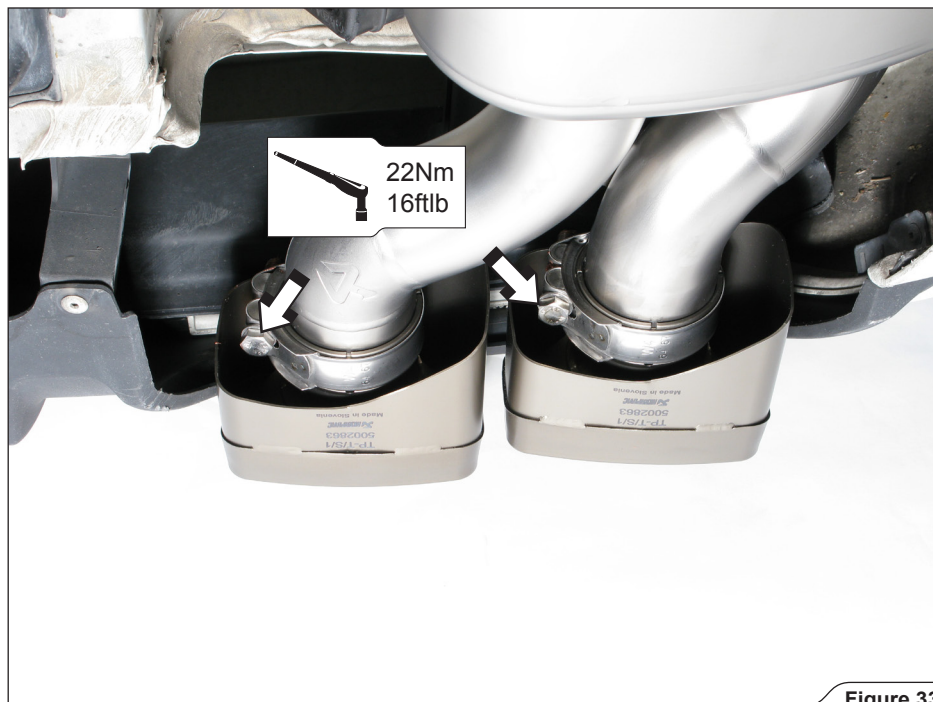

Figure 33
16. **For Slip-On and Evolution:** tighten Tail Pipes' clamps to a specified torque, on both sides of the vehicle (**Figure 33**).